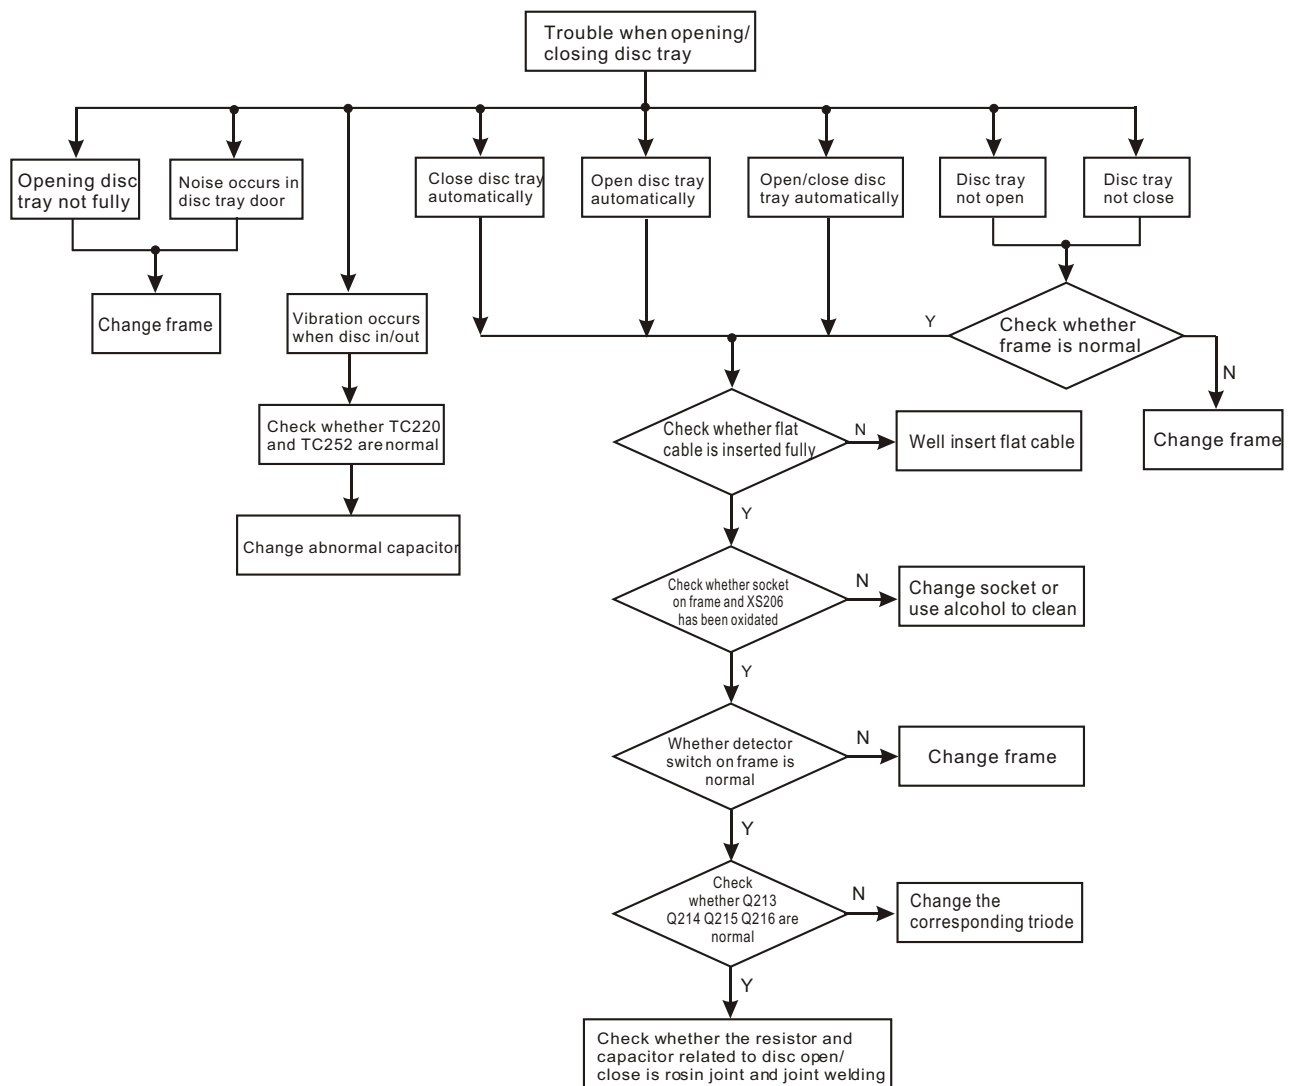

Figure 3.2.5.2 Troubleshooting flow chart for disc in/out
4. Troubleshooting process is shown as the following figure 3.2.5.2: